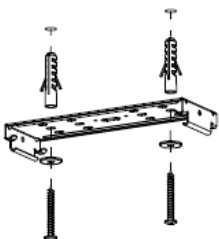

Fig. 1
1. Use the provided mounting screws to secure the Surface Mounting Brackets to Mounting Surface (Fig. 1). See Table 1 for the recommended Surface Mounting Bracket distance from center to center.